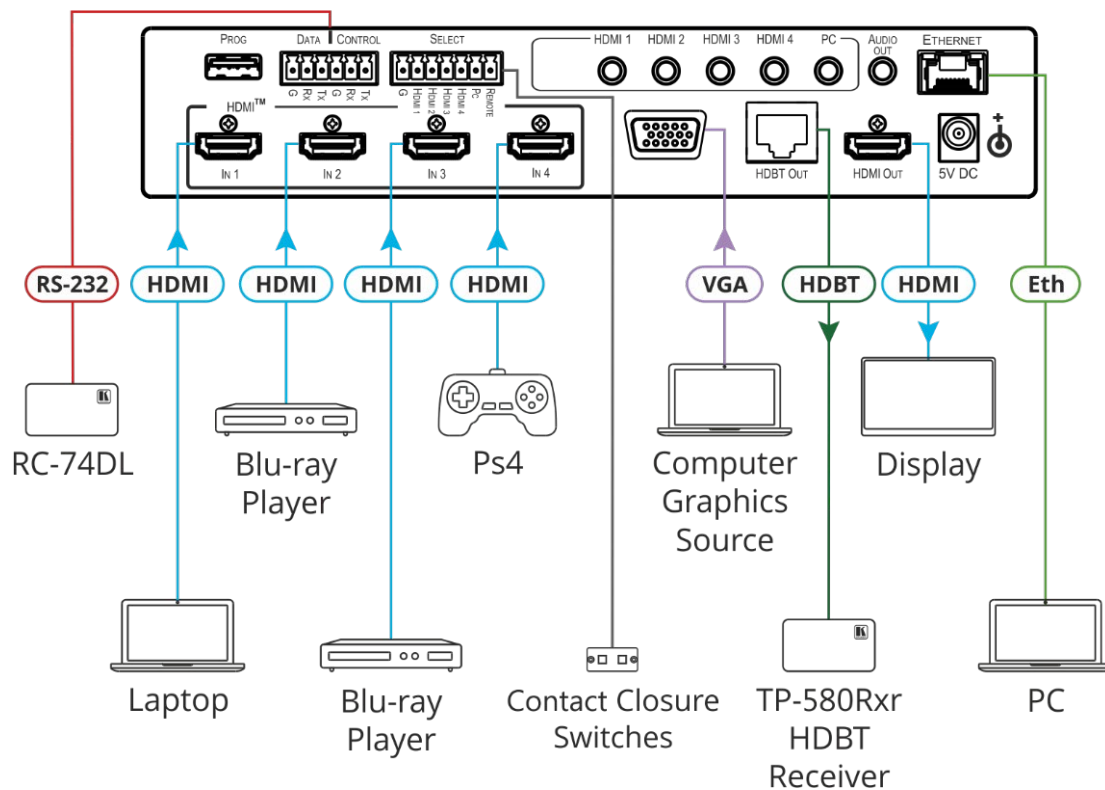

Figure 3: Connecting to the VP-440X Rear Panel
To connect the **VP-440X** as illustrated in the example in Figure 3:
- A computer graphics source to the PC IN 15-pin HD connector (14).
- HDMI sources (for example, a laptop, two Blue-ray players, and a gaming console) to the four HDMI IN connectors (9).
2. Connect an analog stereo audio source (not shown in Figure 3) for each of the four HDMI inputs (15) and for the PC input (16) to the 3.5mm mini jack connectors.
- An HDBaseT receiver (for example, Kramer **TP-580Rxr**) to the HDBT IN RJ-45 connector (17).
- An HDMI acceptor to the HDMI OUT connector (19).
4. Connect an unbalanced stereo audio acceptor (for example, active speakers, not shown in Figure 3) to the AUDIO OUT 3.5mm mini jack (18).
5. Connect a laptop to the Ethernet RJ-45 connector (20).
6. Connect the 5V power supply to the 5V DC power terminal block (21).
7. Connect a PC or serial controller (not shown in Figure 3) to the CONTROL (Tx, Rx, G) terminal block connector (12), to control the unit via serial control.